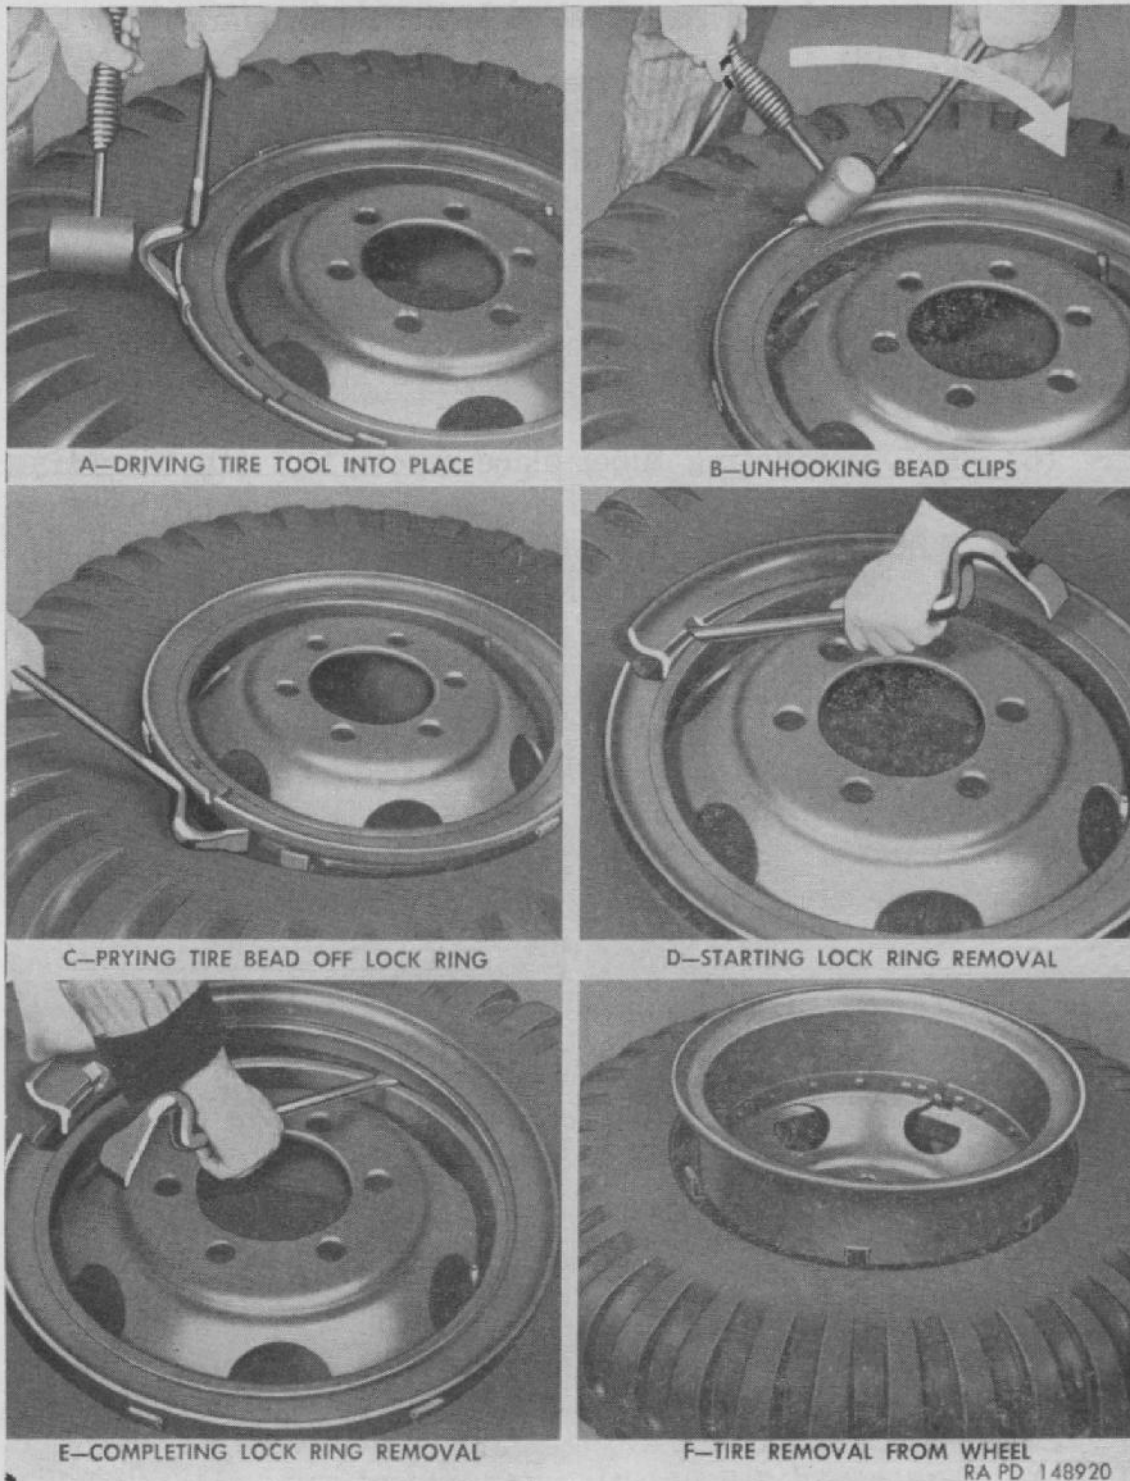

Figure 141. Removing tire.
a. TIRE REMOVAL (fig. 141).
- (1) Lay wheel and tire on floor with lock ring up. Completely deflate tube by removing valve core.
- (2) Drive a "goose-neck" type tire tool between the tire bead and lock ring, next to one of the bead clips (A fig. 141).
- (3) Pry sideways on tool to cause wide part of tool between tire bead and lock ring to force bead away from lock ring. While prying sideways with tool, tap bead clip loose from lock ring (B, fig. 141). Repeat this procedure at all six bead clips.
- (4) Pry tire bead down off lock ring, using tire tool progressively around wheel (C, fig. 141).
- (5) Insert straight end of tire tool into pry notch next to split in lock ring; then, using the wheel rim as a fulcrum, pry lock ring up out of rim gutter (D, fig. 141).
- (6) While pulling up on free end of lock ring, use tire tool progressively around wheel to free lock ring from rim (E, fig. 141).
- (7) Turn wheel and tire over. Free bead clips from rim flange and pry tire bead away from rim flange in same manner ((2) through (6) above).
- (8) Place a block of wood on floor; block must be small enough to permit tire to encircle it and about 8 or 10
inches high. Drop wheel and tire over block with wheel centered on block. Tire will drop off rim (F, fig. 141).